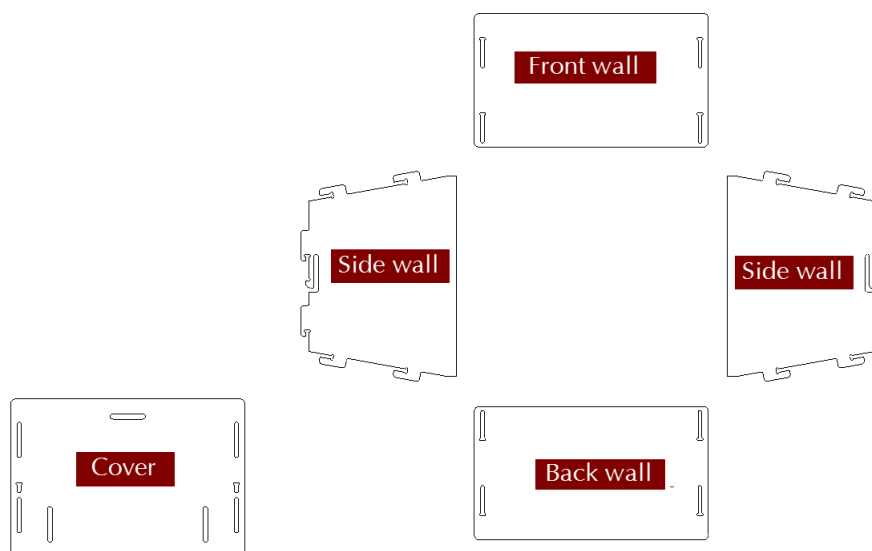
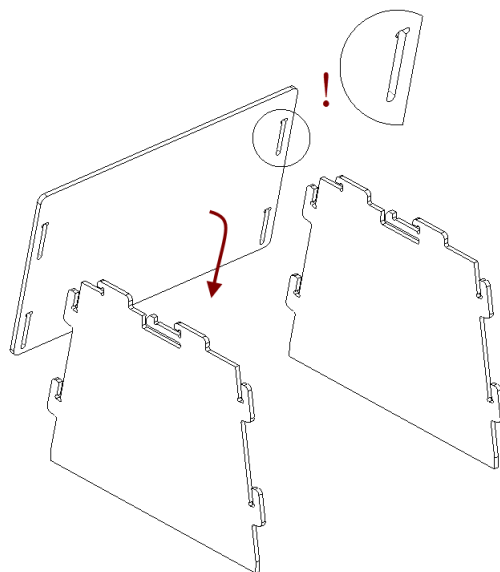
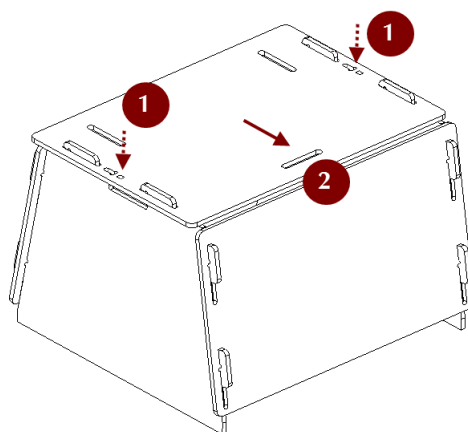

Figure 175: Parts of the scanner stand.
Figure 176: Assembling the front wall.
Figure 179: Latching the cover.
The scanner stand comes unassembled with Artec Spider and consists of five parts (see Figure 175): two side walls, one front and one back wall (these parts are identical, however), and a cover. Before beginning assembly, lay them all out as Figure 175 shows. Then follow these steps:
1. Raise the two side walls to the upright position, as Figure 176 shows. Noting carefully the orientation of the T-shaped slot, install the front wall to the side walls using the two pairs of hooks. Press the front wall and slide it down against the stop. Make sure the three walls are properly aligned with each other.
4. Press your thumbs against the T-shaped holes on the cover and shift it toward the back wall until you hear a click (see Figure 179).
Note: To disassemble the stand, release the detents in the cover's T-shaped slots (see Figure 175) using a thin object like a ballpoint pen. Repeat the assembly steps in reverse order (from Figure 179 to Figure 176), moving the parts in the opposite directions.